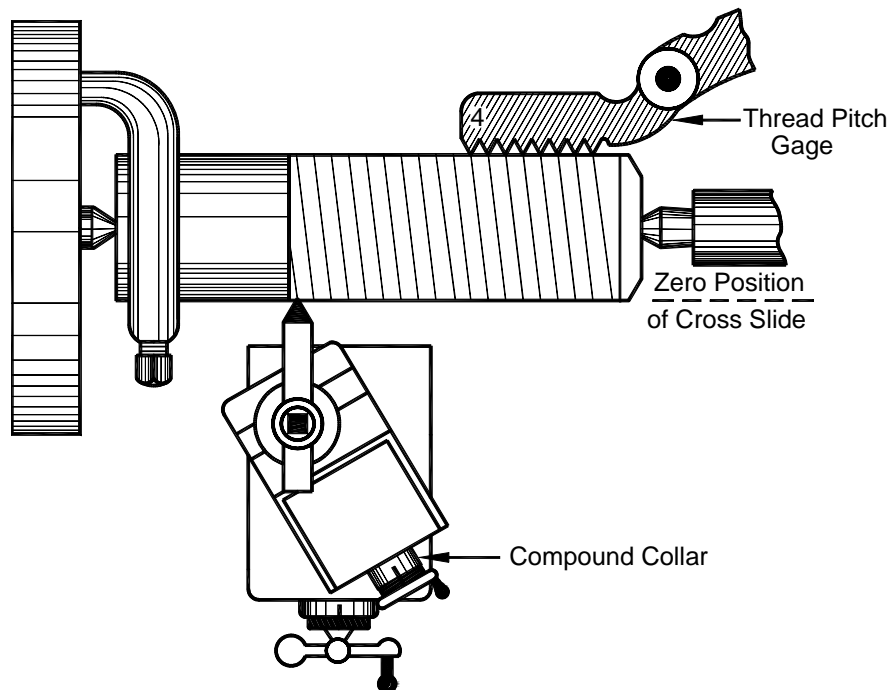

Figure 7-143. Making the scratch cut for a metric thread.
6. Make a trial scratch cut as if 60° thread cutting and, using the cross slide, withdraw the tool at the end of the cut. *Do not open the half-nuts at the end of the cut.* Stop the spindle, then check that the required thread pitch has been cut. Adjust the gearbox if necessary. See Figure 7-143.